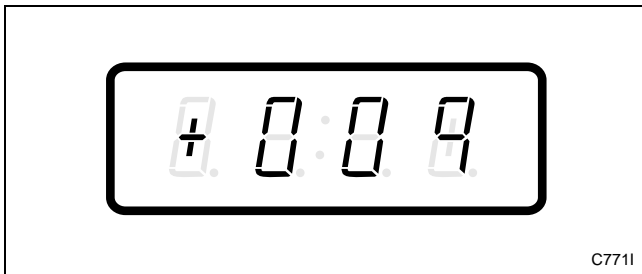

Figure 9
3. Press the DELICATES (+) or the COLD (-) keypad to scroll through the programmable options until “+009” appears in the VFD. Refer to *Figure 9*.